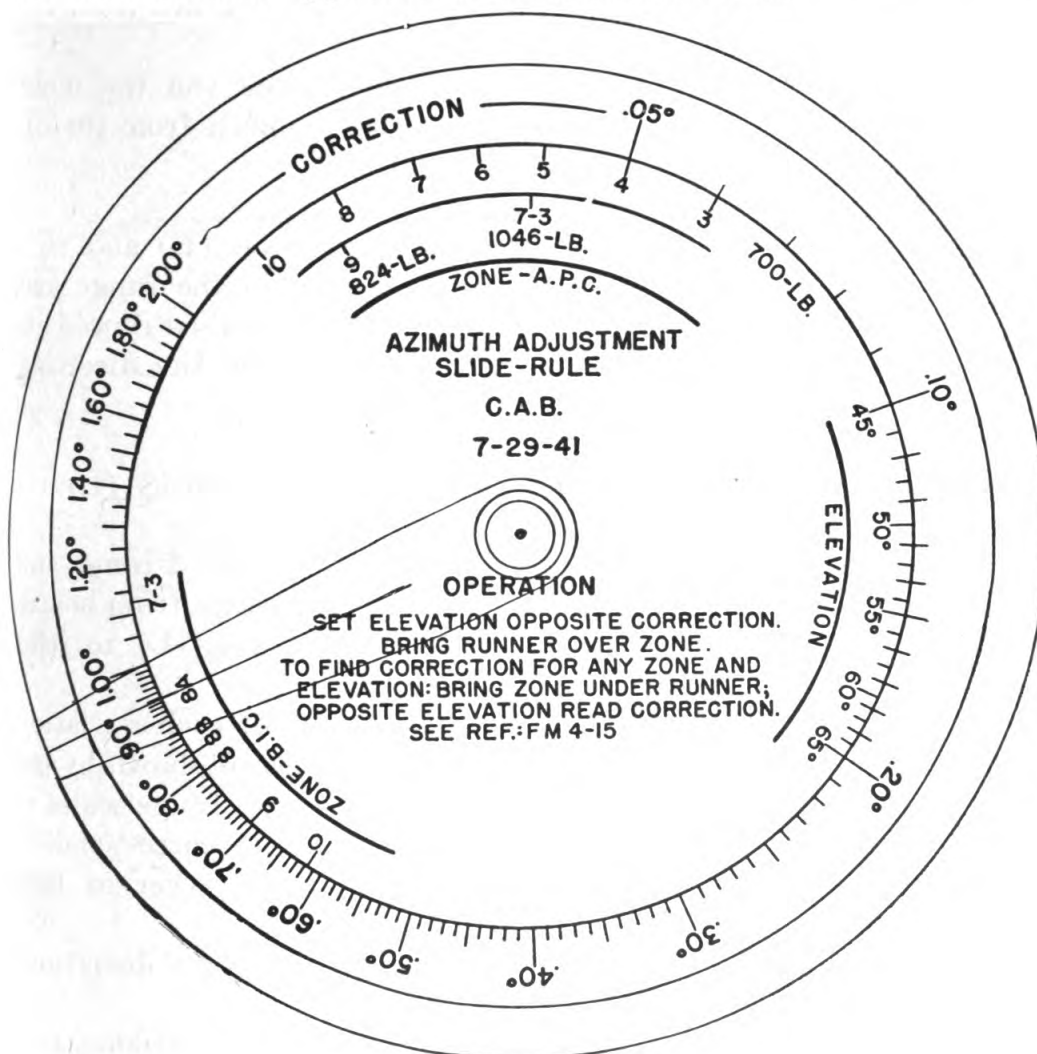

FIGURE 59.—Azimuth adjustment slide rule.
- (1) Set the gun arm to the azimuth of the displaced gun from the directing point.
- (2) Revolve the curve disk until the distance to the displaced gun, in yards, is set under the displacement pointer.
- (3) Set the range pointer over the proper range curve on the curve disk.
- (4) Read the corrected azimuth opposite the index on the parallax arm.
Q. How is the azimuth adjustment slide rule operated? *A.* Assume that a mortar battery is firing in zone 8-A using base increment charges. The operator hears a correction ordered of "Left 0.15° " when firing at 55° elevation. He sets the 55° elevation mark opposite the 0.15° correction mark as shown in figure 59 and sets the runner over the mark representing zone 8-A, on the B. I. C. scale. He then applies the 0.15° correction on his deflection board. (When using this instrument, the adjustment scale on the deflection board should be marked in absolute values instead of reference numbers.) He observes the change in the correction as the elevation changes and keeps the correction set to the nearest 0.05° . Thus when the elevation